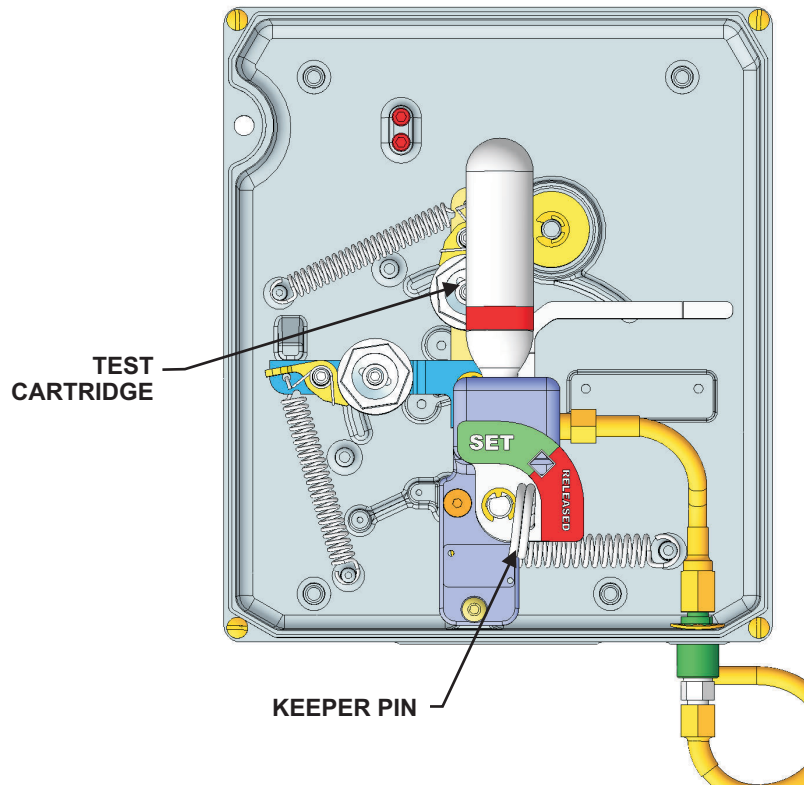

Figure 5-13. XV Control System, Test Cartridge Placement
1. After ensuring that the system is in the 'Set' position and the Keeper Pin is in place, locate the Test Cartridge (P/N 87-120044-001). Carefully install the cartridge into the valve assembly of the XV Control System. Tighten until cartridge is snug (see Figure 5-13). It is permissible to perform this test with the System Cartridge.